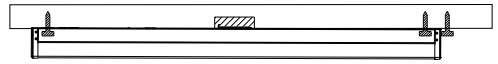

Figure 6
3. Fix a screw in the ceiling, on the right side of fixture. (Figure 6)